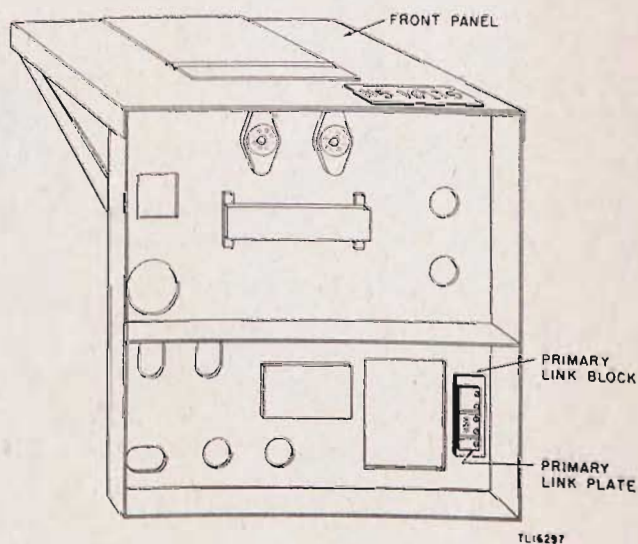

Figure 53. Radio Transmitter T-30/TRC-8 (XC-3), primary link plate.
- (1) Throw POWER ON-OFF switch to OFF position.
- (2) Remove Power Pack PP-115/TRC-8 (XC-3) from Case CY-52/TRC-8 (XC-3).
- (3) Loosen five screws on primary link plate (fig. 53).
- (4) Repeat steps (4), (5), and (6) above.
- (5) Replace power pack in case. Equipment is now ready for the line-voltage operation indicated.